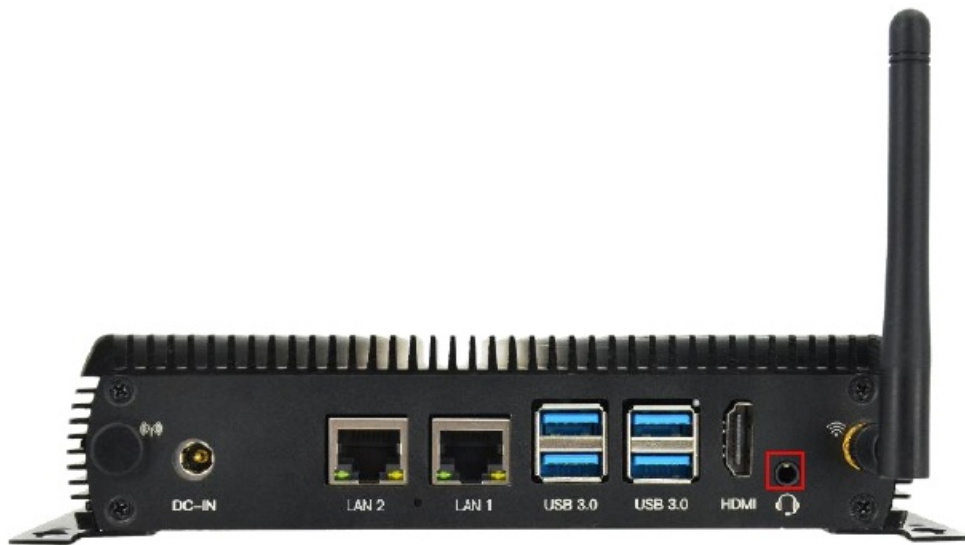

Figure 9 Audio
- BPC-iMX8MP-03 Industrial Computer provides a combined headphone and microphone input interface. The connector is a 3.5mm socket, compatible with the built-in needle socket design, has audio input/output functions, and supports rated voltage 1.5V MIC audio input. As shown in the Figure 9.